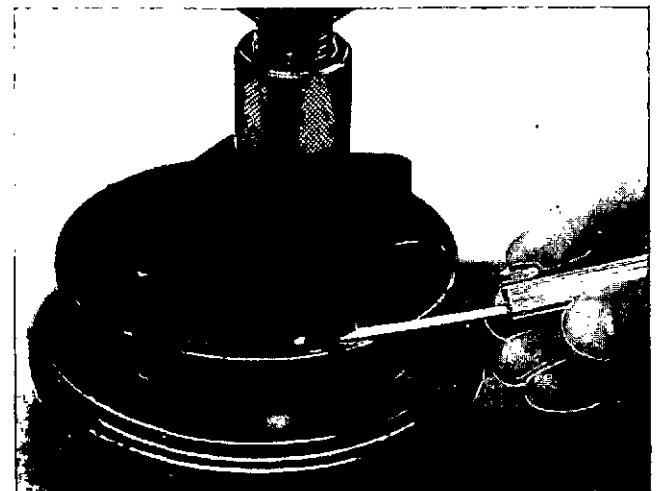

Fig. 8-13 (N10855). Measure The Clearance For The Impeller.
9. Apply a thin coat of Loctite 601 to the inside diameter of the impeller. Support the water pump on the pulley end of the shaft. Push the impeller onto the shaft. The minimum clearance between the vanes of the cast iron impeller and the water pump housing must be 0.020 inch [0.51 mm]. The maximum clearance must not be more than 0.040 inch [1.02 mm], Fig. 8-13.